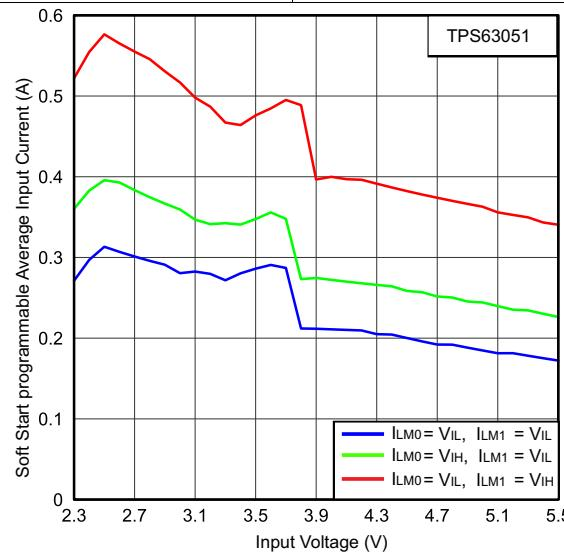

Figure 3. Programmable Average Input Current vs Input Voltage⁽¹⁾
(3) For variation of this parameter with Input voltage see Figure 3.
(1) For variation of this parameter with Input voltage see Figure 3.
To minimize inrush current and output voltage overshoot during start up, the device has a soft start. At turn on, the input current raises monotonically until the output voltage reaches regulation. The TPS6305x devices charge the soft start capacitor, at the SS pin, with a constant current of typically 1 μ A. The input current follows the current used to charge the capacitor at the SS pin. The soft start operation is completed once the voltage at the SS pin has reached typically 1.3 V. **Figure 3** shows the value of the soft start capacitor in respect to the soft-start time.
The soft-start time in **Figure 3** is referred to typical application with 10- μ F effective output capacitance.